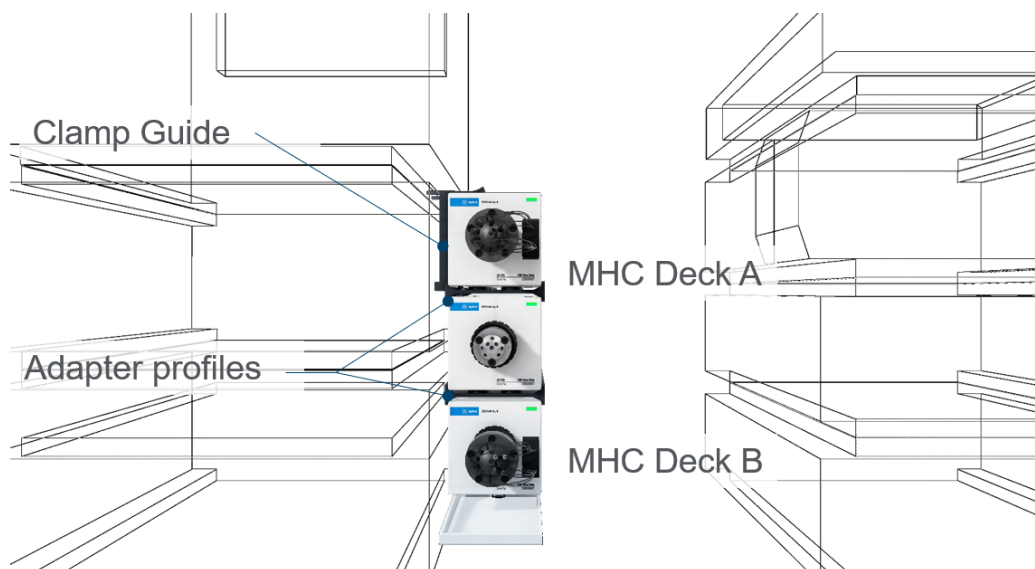

Figure 13 Schematic of the installation and attachments of the 2D-LC valve and optionally the MHC decks.
- 4 Attach the adapter-profile on each of the other external valve drives and mount them according to the positions shown in Figure 13 on page 19.